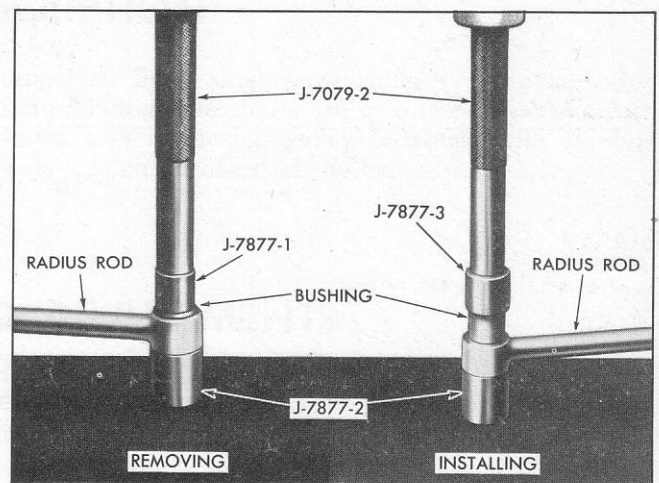

Fig. 7—Replacing Radius Rod Bushing
1. Center bushing over J-7877-2 support and press or drive bushing from rod using J-7877-1 remover with handle J-7079-2 (fig. 7).
2. With rod end centered over J-7877-2 support, press or drive replacement bushing into rod using J-7877-3 installer with handle J-7079-2 (fig. 7). J-7877-3 should bottom out on rod when bushing is fully installed.